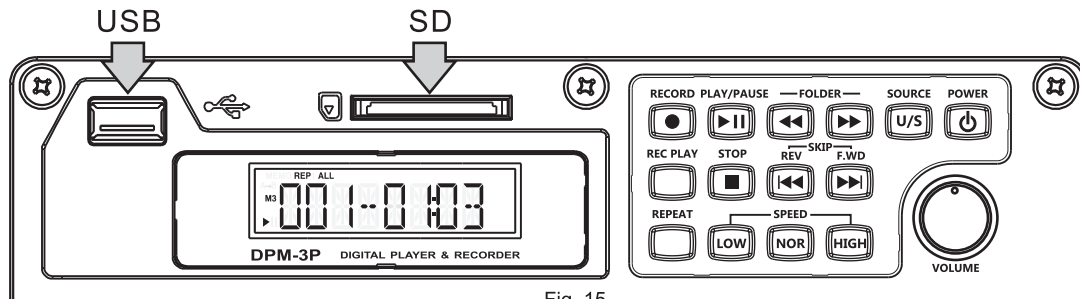

Fig. 15
(A) Media Slots. Fig. 15:
- (1) USB Disk: Insert USB 2.0 into the USB port for playing MP3 / WMA / FLAC / APE / WAV / M4A / AAC / OGG files.
- (2) SD Card Reader: Insert a SDHC card with gold contacts facing up and label facing down. Press it again to pop out.
- (3) Format USB and SD card before playback. Format standard is FAT.
- (4) Press SOURCE Mode button **A8** to select USB or SD card. USB plays first prior to SD card.
- (5) NO DISK displays when it is unable to detect or read a media source.